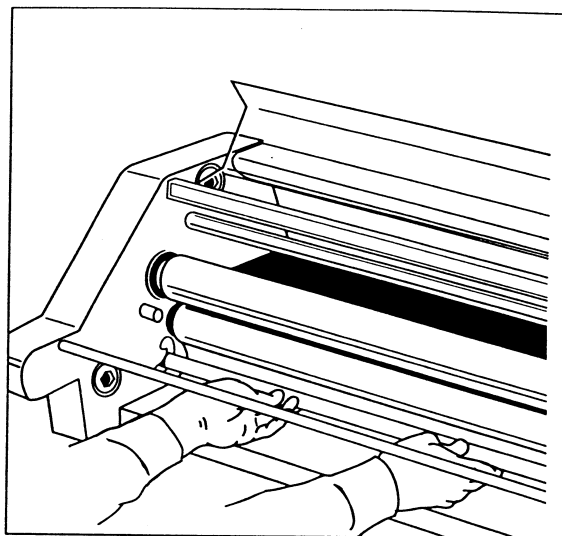

Fig. 6
1. Turn the main power switch on. If the laminator is already hot turn the main power switch off (O) and allow the unit to cool, then turn the machine back on (I). Remove feed table.
9. Lower the bottom idle bar, (Figure 6).